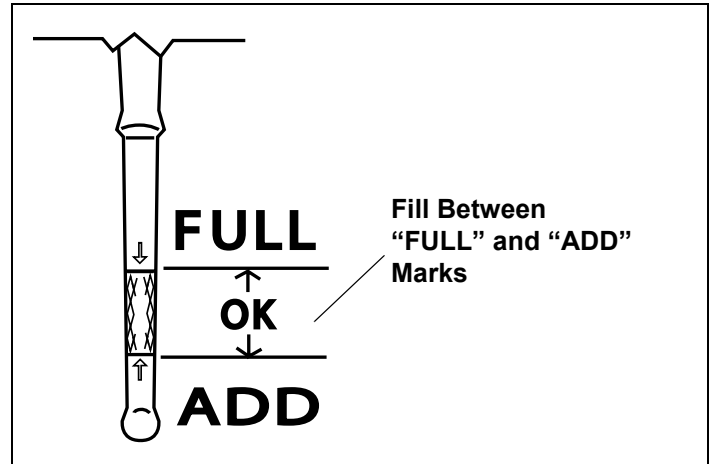

Figure 6. Engine Oil Level
- Keep oil level between “FULL” and “ADD” marks on dipstick or to point of overflow on engines without dipstick. See Figure 6.
4. Unscrew and remove oil fill cap dipstick from oil filler tube. Note oil level. If oil reading on dipstick is below “ADD” mark, slowly add oil to reach “FULL” level. See Figure 6.